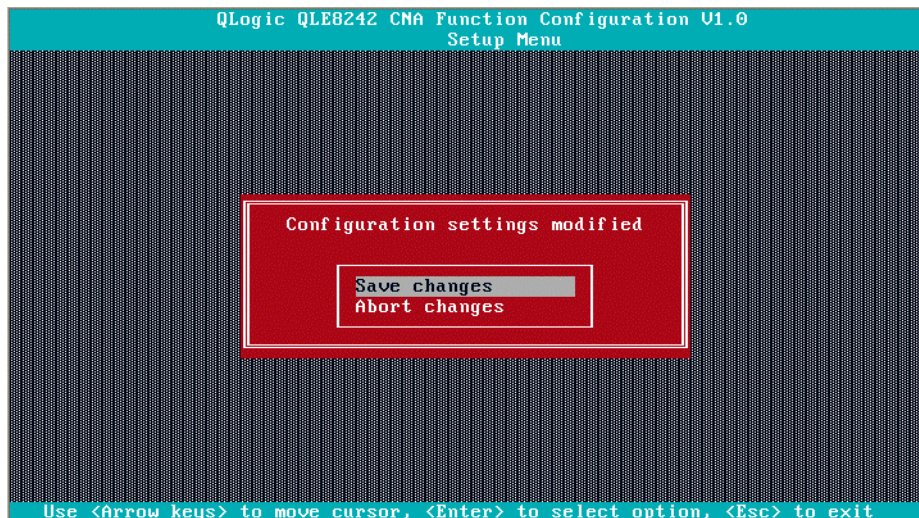

Figure 31: Saving Configuration Changes
5. Save your changes (Figure 31).